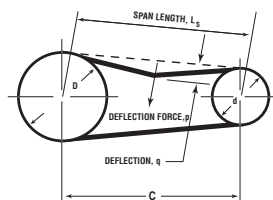

Fig. 2
1. Measure the span length of the drive. (See Fig. 2).